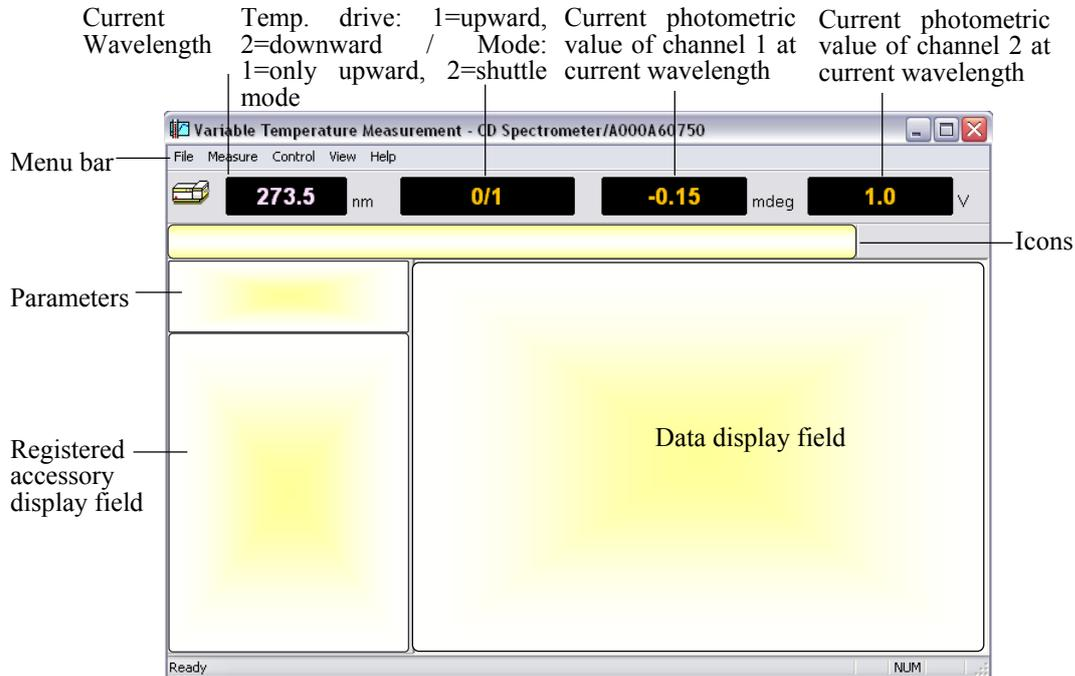

Figure 3.1 [Variable Temperature Measurement] window
- [Status Bar...] Displays or hides the status bar of Figure. 3.1.